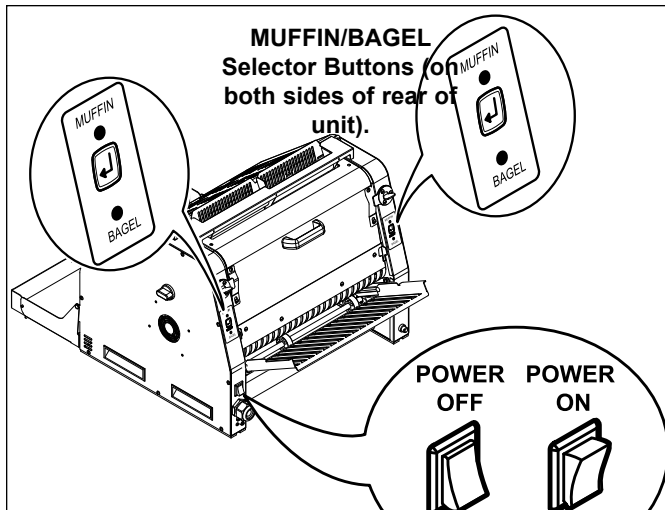

Figure 6. Purging Products: Rear of Unit
With the unit in a READY or WAIT mode, you can also press and hold BOTH of the **MUFFIN/BAGEL** selector buttons together to purge product from the unit. These buttons are located at the rear of the unit. See Figure 6.
- Press and hold both **MUFFIN/BAGEL** selector buttons on the back of the unit (Figure 6) to expose the uncleaned portion of the belt. Repeat Step 2 on the uncleaned portion of the belt.